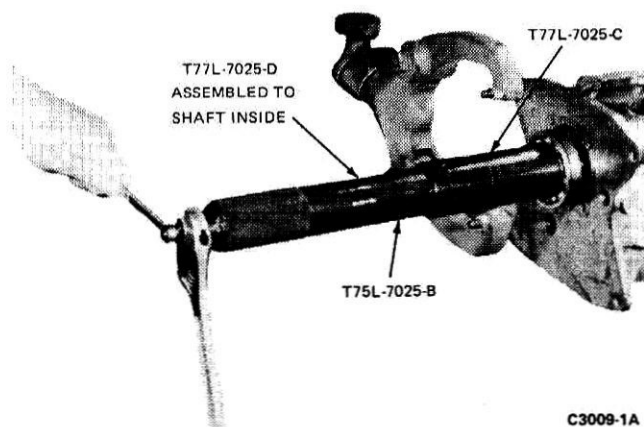

FIG. 14 Installing Input Shaft Bearing
32. Position the input shaft bearing on the input shaft along with the Clamp, Tool T77L-7025-D, the Sleeve, Tool T75L-7225-K, and the bearing Replacer Tube, T77L-7025-C. Press the bearing onto the shaft and into the transmission case as shown in Fig. 14.